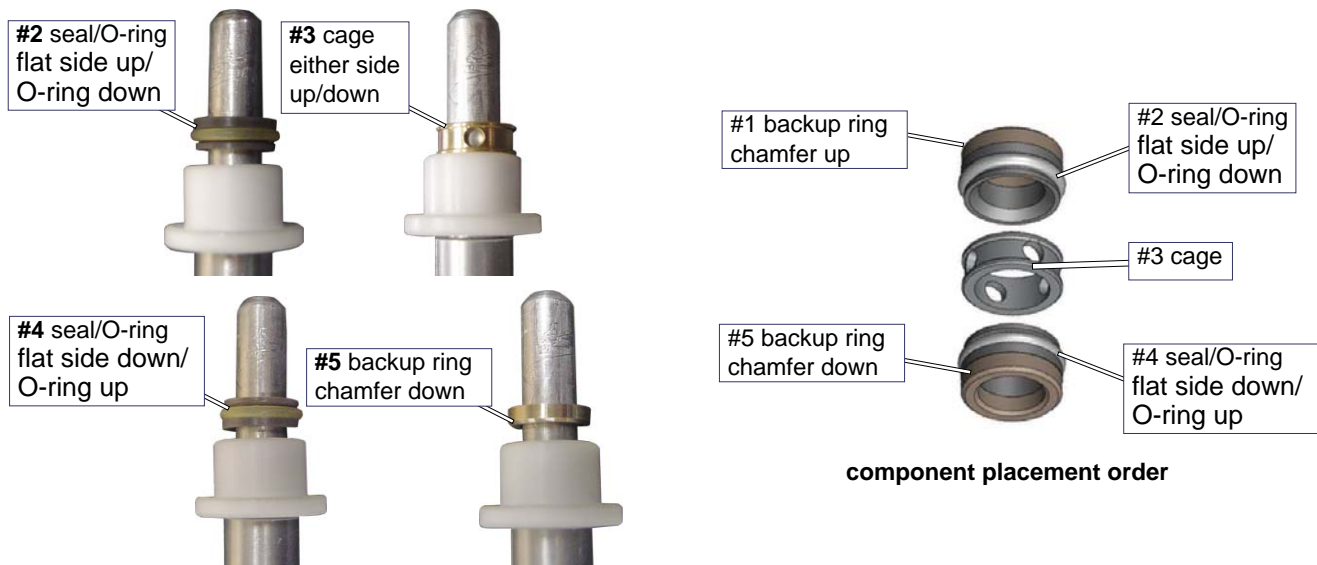

Figure 107
- d. Using the same install/withdraw procedure for each component, finish installing the four remaining seal components, one at a time, in the order illustrated in Figure 107 below: